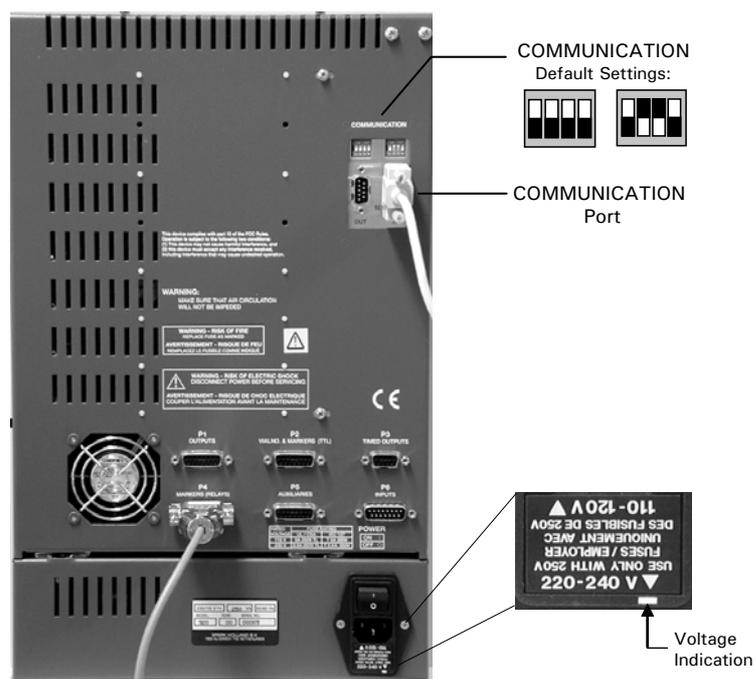

FIGURE 2-7 Rear Panel – FAMOS Autosampler
- a) Connect the serial cable from the COMMUNICATION port on the FAMOS to a free RS232 serial COM port on the computer (FIGURE 2-7).